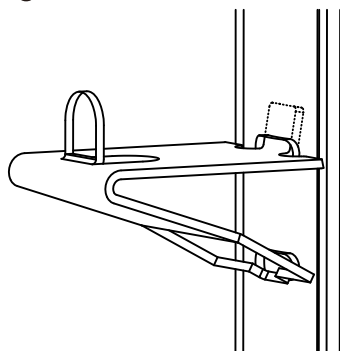

Figure 2: Adjustment of the shelf support clips
- If you require to move the shelves, the support clips can be adjusted by squeezing together and angling upwards as can be seen in Figure 2. Please do not exceed the maximum shelf weight of 15 kgs.